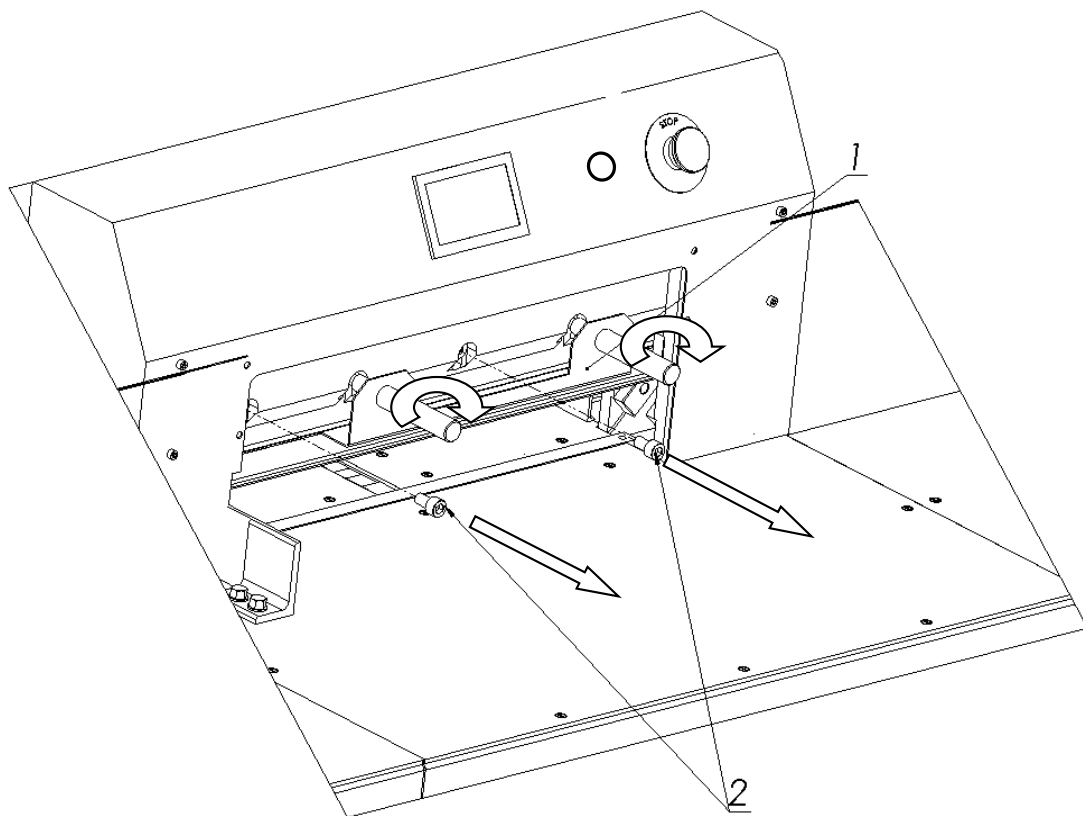

Figure 25.
**8.1.1.11** Unscrew and remove the screws 2 (fig.25)